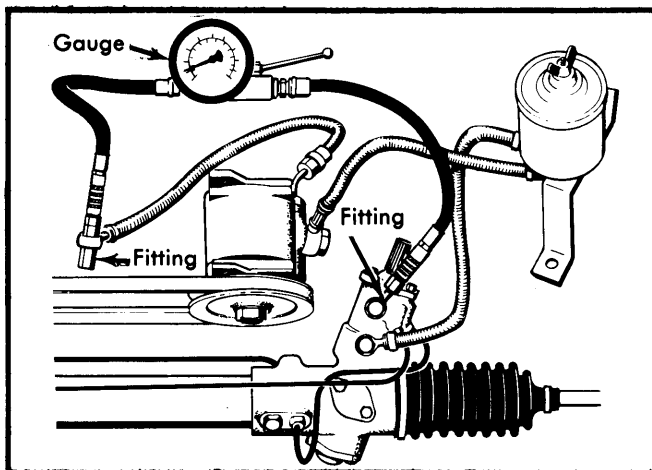

Fig. 1 Pressure Gauge Test Set Up
**Testing** — 1) Connect a pressure gauge as shown in Fig. 1). Make sure oil in reservoir is at level mark.
1) — With pressure gauge connected as shown in Fig. 1, and engine at idle, turn steering wheel fully to left, then fully to right, pressing at end position for a maximum of 10 seconds. Correct pressure should be 895-995 psi (63-69 kg/cm2) for the Saginaw pump and 825 psi (58 kg/cm2) for the ZF pump.